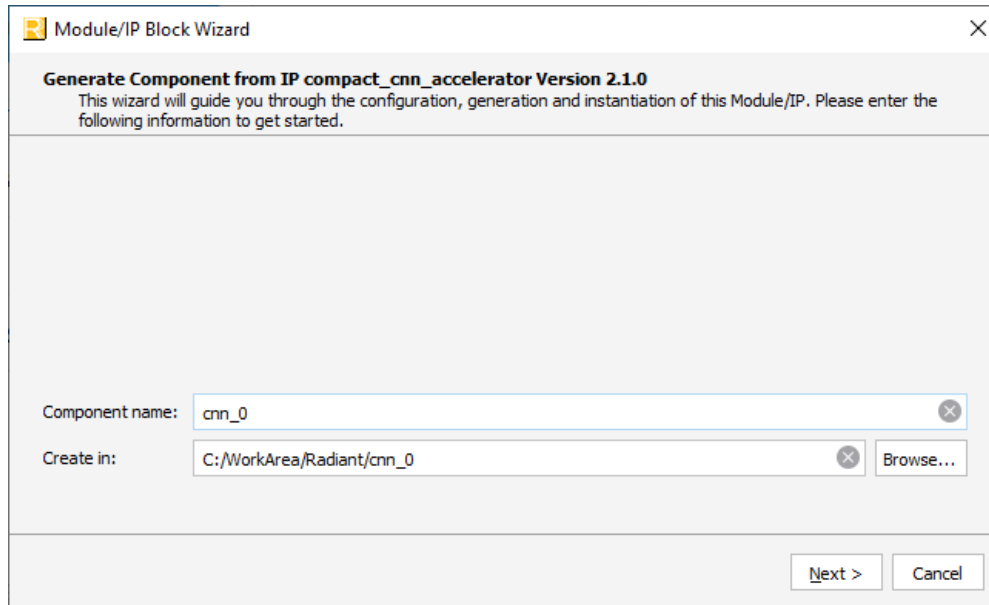

Figure 4.1. Module/IP Block Wizard
2. In the IP Catalog tab, double-click on **Compact\_CNN\_Accelerator** under IP, DSP category. The Module/IP Block Wizard - appears as shown in Figure 4.1. Enter the values in the **Instance name** and the **Create in** fields.
4. Update the configuration parameters as necessary as shown in Figure 4.1.
6. Click **Finish**. All the generated files are placed under the directory paths in the Create in and the Instance name fields shown in Figure 4.1.